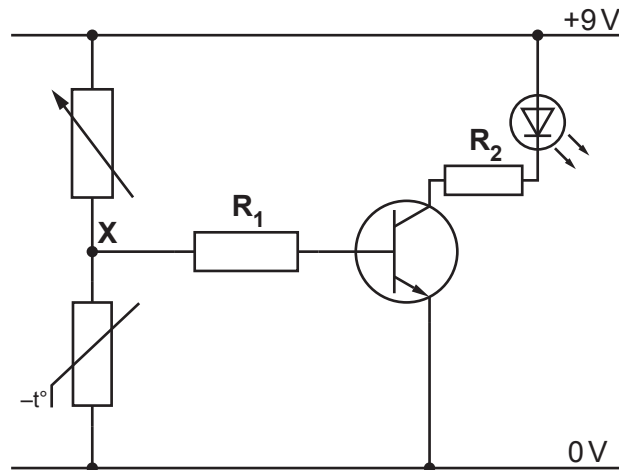

Fig. 12.3
- (iv) Point **X** is connected to a transistor as shown in Fig. 12.3.